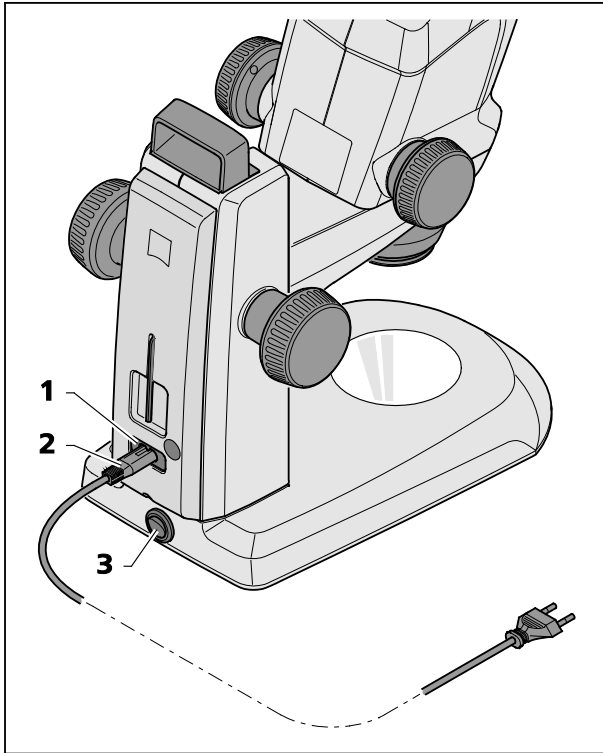

Fig. 12 Connecting the stereo microscope
- Insert the mains cable (Fig. 12/2) in the mains supply socket (Fig. 12/1) of the stand.
- Connect the mains cable (Fig. 12/2) to a mains supply socket outlet.
- Use the power switch (Fig. 12/3) to switch the stereo microscope ON or OFF.